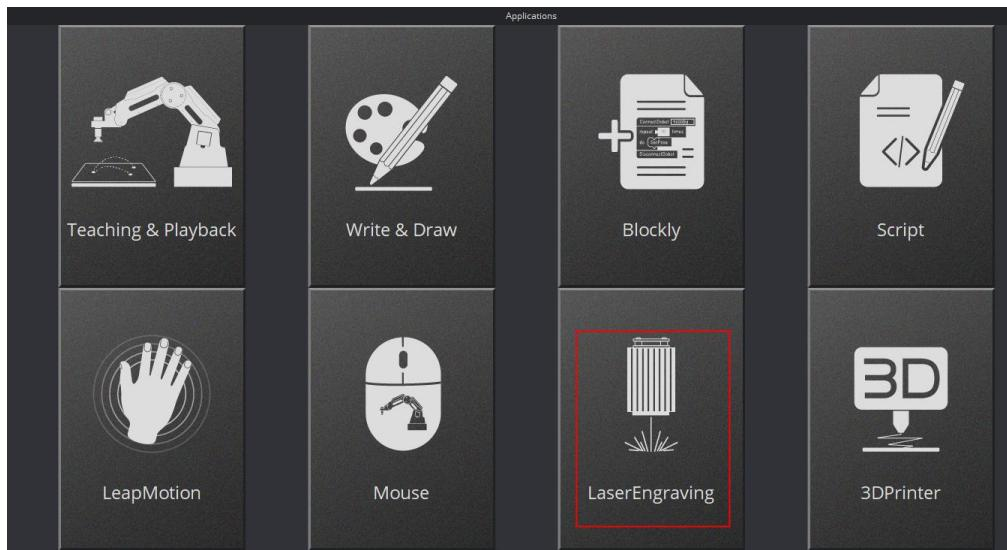

Figure 5.79 Click LaserEngraving
**Step 2** Click **LaserEngraving**, as shown in Figure 5.79.